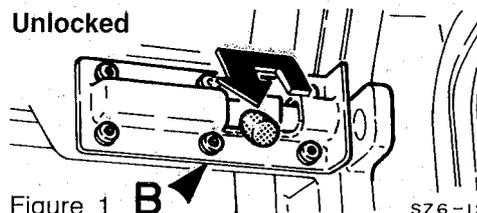

Figure 1 B
- 1 Pull the pins of left and right locks "B" to the inside then turn them to the locked position to unlock the front window. If the lock pins are partially sticking out they may cause damage. (Refer to Figure 1.)